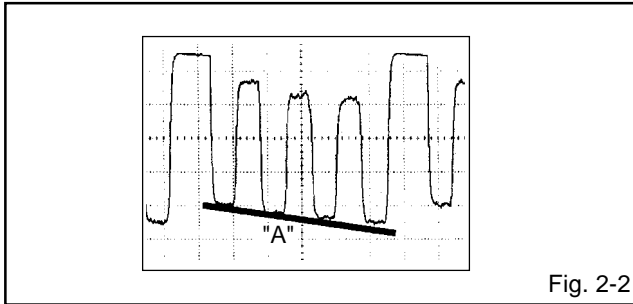

Fig. 2-2
5. Press the VOL. +/- button on the remote control until the section "A" becomes a straight line. (**Refer to Fig. 2-2**)